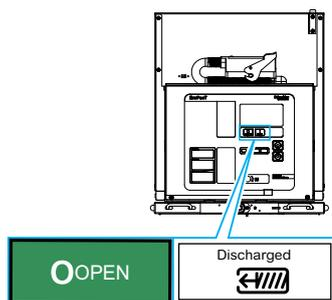

Figure 72
- The VCB is closed/off, discharged and in disconnected/test position. Refer to Figure 72.
3. Check the device indicators and, if necessary, operate the circuit breaker mechanically to place it in the OFF and discharged position. Refer to Figure 72 in Insertion of the EvoPacT HVX VCB into the Cubicle, page 82.